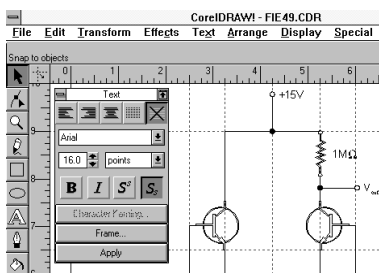

Fig. 26
**66.** Now we need to enter the label for the Vout line. Select the graphics tool ('A' symbol) from the tool bar. Move the cross hair into position near the right end of the Vout line segment. Click the mouse once. Type in an upper case 'V'. Move the mouse to the text roll-up and click once on the subscript symbol as shown in **Figure 26**. Now type a lower case 'out'. Select the text with the pick tool and move the text into position. Nudge it into more precise placement if necessary.